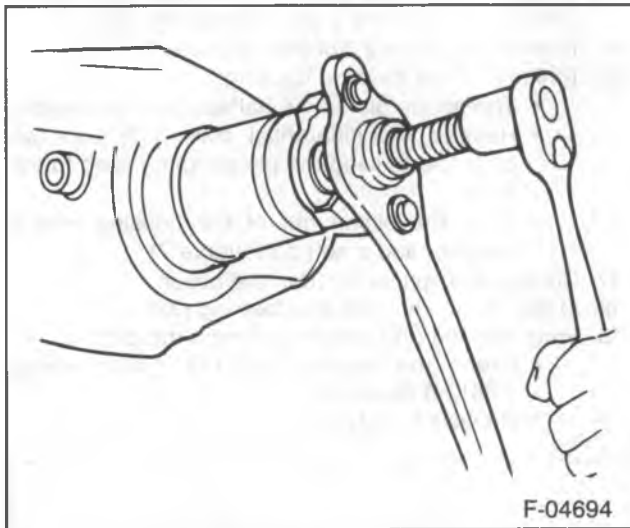
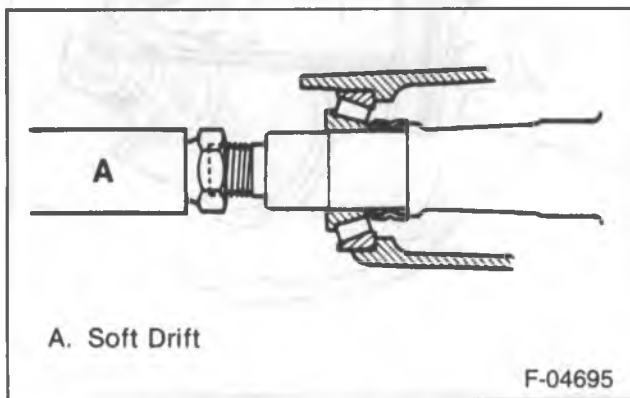
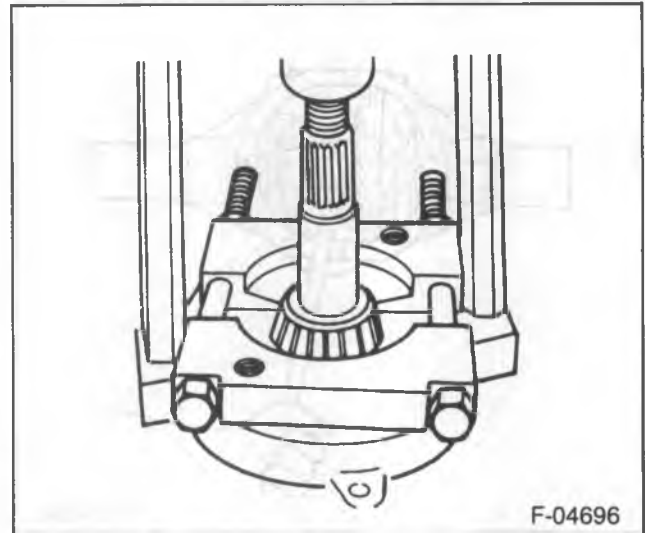

Figure 6—Removing the Pinion Flange
Figure 7—Removing the Drive Pinion
Figure 8—Removing the Pinion Rear Bearing
- 15. Pinion flange using J 8614-01 (figure 6).
- 16. Pinion (7) from the axle housing.
- Replace the differential cover (12) with two bolts (14) to keep the pinion from falling to the floor.
- Drive the pinion out of the housing with a hammer and a soft drift (figure 7).
- 17. Collapsible spacer (4) from the pinion.
- 18. Outer pinion seal (38) and bearing (39).
- 19. Inner bearing (5) and shim (6) from the pinion.
- Press the bearing off the pinion using J 8612-B (figure 8).